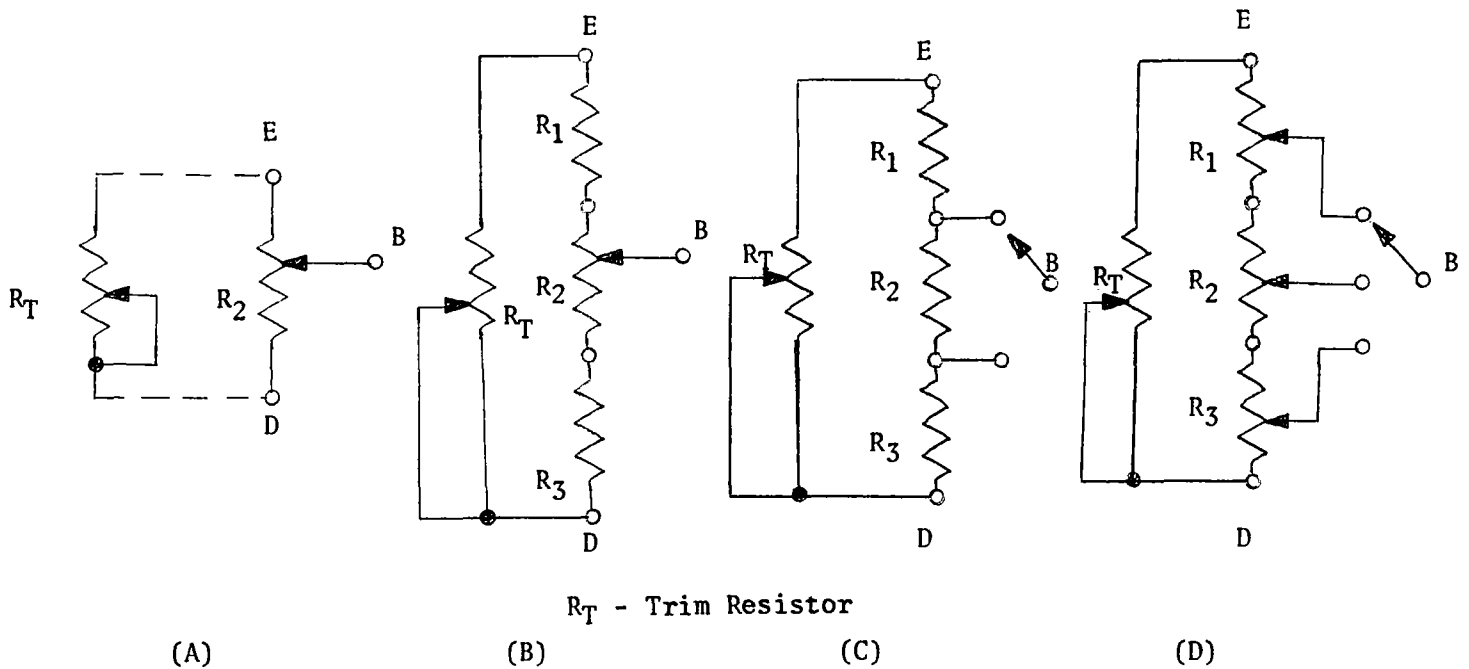

Figure 3.6-Programming Networks
A number of external temperature programming networks are shown in Figure 3.6.
3. To insure that the total resistance between pins E & D of the external programming voltage divider be of the correct value to develop a drop of 3 volts, it is suggested that the divider calculation be based on more than 210 ohms per 1 volt and a shunting resistor ( $R_T$  in Fig. 3.6) used for precision trimming to 3 volts between pins E-D.